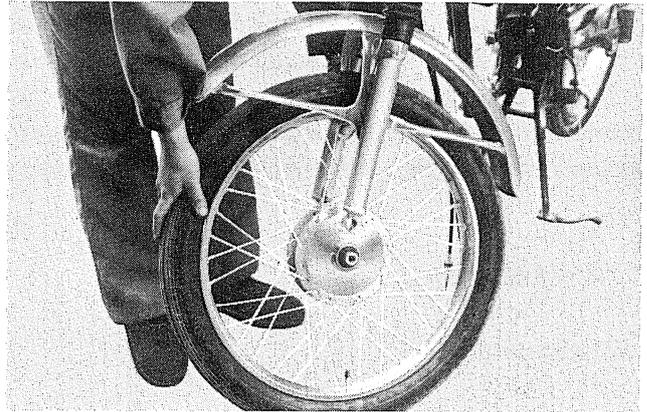
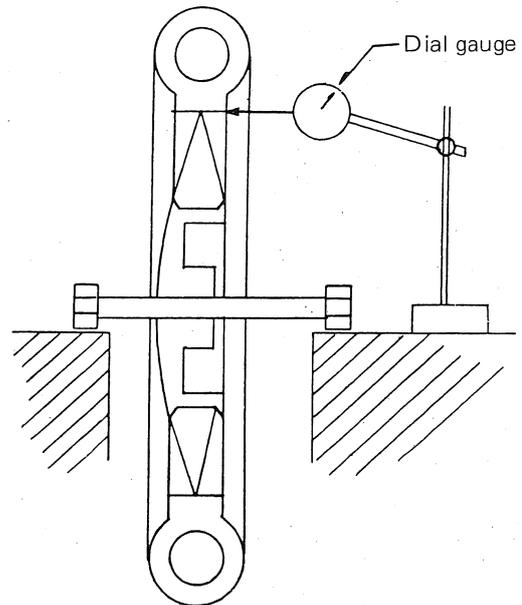

Fig. 4-1-5
Fig. 4-1-6
- 3) Remove the front wheel ass'y. (Fig. 4-1-5)
As shown in Fig. 4-1-5, measure the runout of the rim with a dial gauge. Limit of runout . . . 3 mm (0.11 in.) or less (Fig. 4-1-6)